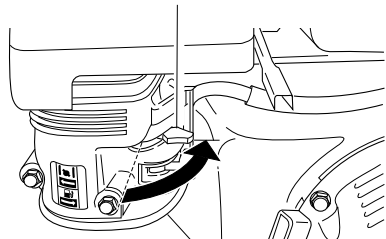

Figure 25 - Choke Lever Opened (Model MGH7000D Shown)
5. As engine warms up, slowly move choke lever fully to the right (see Figure 25, page 13). This opens the choke. On Model MGH10000A, the choke will automatically open.